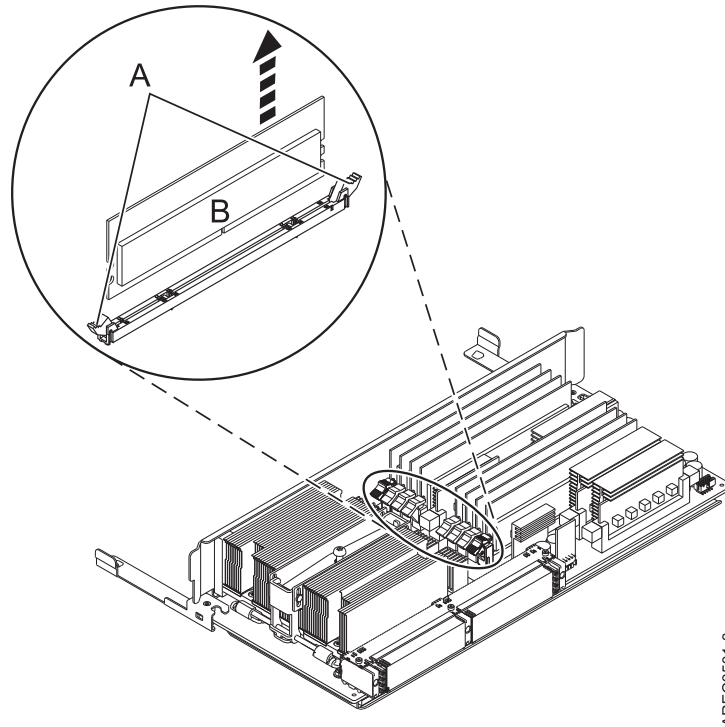

Figure 28. Removing a memory module
10. Unlock the memory module by pushing the locking tabs **(A)** out and then down, as shown in Figure 28 on page 43. The lever action of the tabs forces the memory module out of the connector.